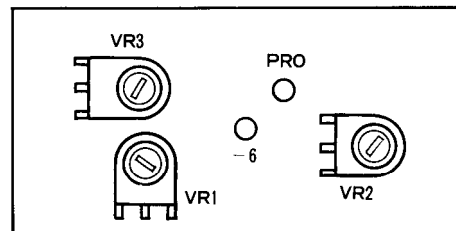

Fig. 15 Control unit (X53-1040-00)
- (7) Under the above condition, set the AC-DC selector switch on the rear panel to "AC". Then, adjust VR2 of the control unit until the output power reaches 9 W (ALC adjustment) (Fig. 15).
- (8) Turn VR1 of the control unit so that the RF meter indicates the point "8" (RF meter adjustment). Then, set the AC-DC selector switch back to "DC".